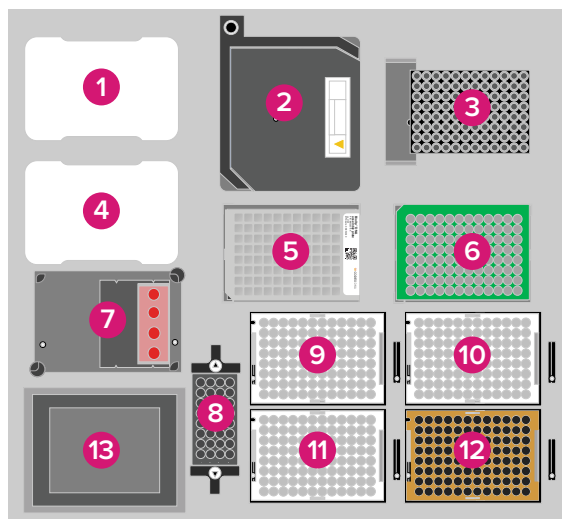

Figure 1. Deck map
2. Inside the system, in deck location 2, remove all tape securing the thermocycler lid to the thermocycler (see figure 1).
3. Remove the two white thermal covers from the accessory box and place them in locations 1 and 4 (see figure 1).
4. Place the ethanol reservoir, found in the accessory box, on the right side of location 7 as shown in figure 1.